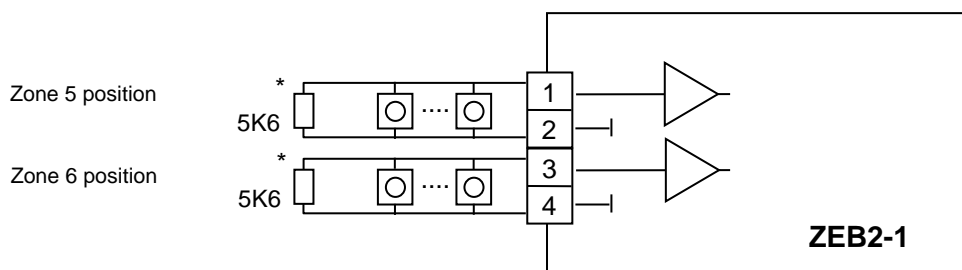

Figure 11.6
- Possible additional fault reports: **Signaling fault:** The terminal 13 or 14 siren output is open/connect an EOL resistor. **Detector zones fault:** One or more zone outputs are open/connect an EOL resistor. (see Figure 11.5 and Figure 11.6)